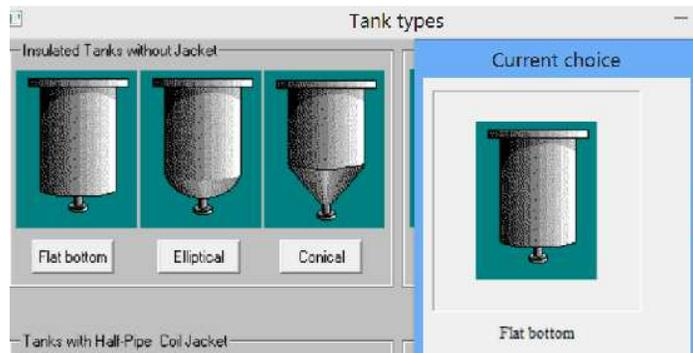

Figure 1. Graphic menu for tank selection (fragment).
**1.1. Tank.** After the program is started, it provides a graphic menu for selection of the tank type (Fig.1). In our case a tank with elliptical bottom without jacket has to be selected. After the tank type has been selected, the program defines the list of necessary dimensions and provides the